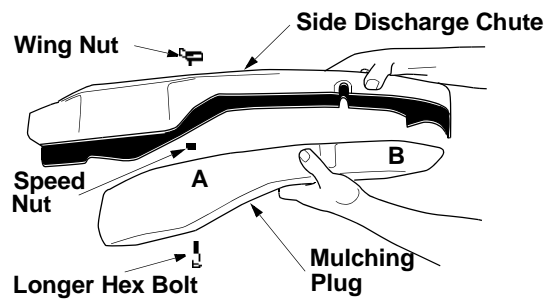

Figure 5
- Put two hex bolts through the mulching plug at the respective openings. See Figure 5.
- Place wing nut on each of the hex bolts and thread a few turns. See Figure 5. Check that the mulch plug is aligned correctly within the discharge chute. Tighten both wing nuts